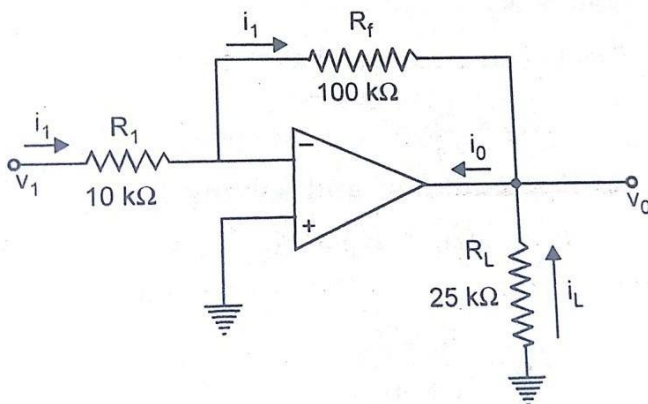

Fig. 2.5 (b) Circuit for Example 2.2
- In figure 2.5(b), $R_1 = 10\text{K}\Omega$, $R_f = 100\text{K}\Omega$, $V_i = 1\text{V}$. A load of $25\text{K}\Omega$ is connected at the output terminal. Calculate (i) i_1 (ii) V_o (iii) i_L and total current i_o into the output pin